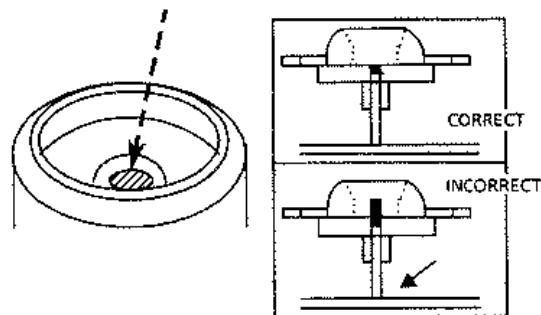

Fig.10
- After inserting the turntable, bond the motor shaft and turntable together (at the section marked by an arrow in fig. 10 on the left below).
- Use "LOCKTITE" #460 bonding agent, and apply as little as possible. Take care not to allow any excess bonding agent to get onto the turntable. Be extremely careful not to allow bonding agent to adhere to the motor bearings (the section marked by an arrow in fig. 10 on the right).